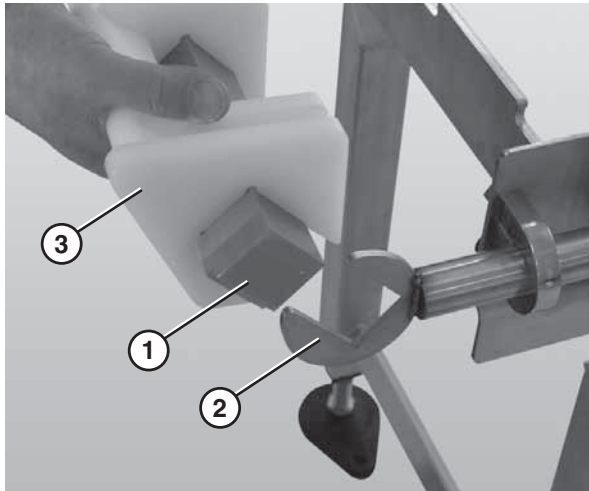

Figure 75
1. Slide the nose bar drive or transfer post (**Figure 75, item 1**) out of the nose bar drive weldment or idler hands (**Figure 75, item 2**).
2. Remove the nose bar tracking pucks (**Figure 75, item 3**), if applicable.